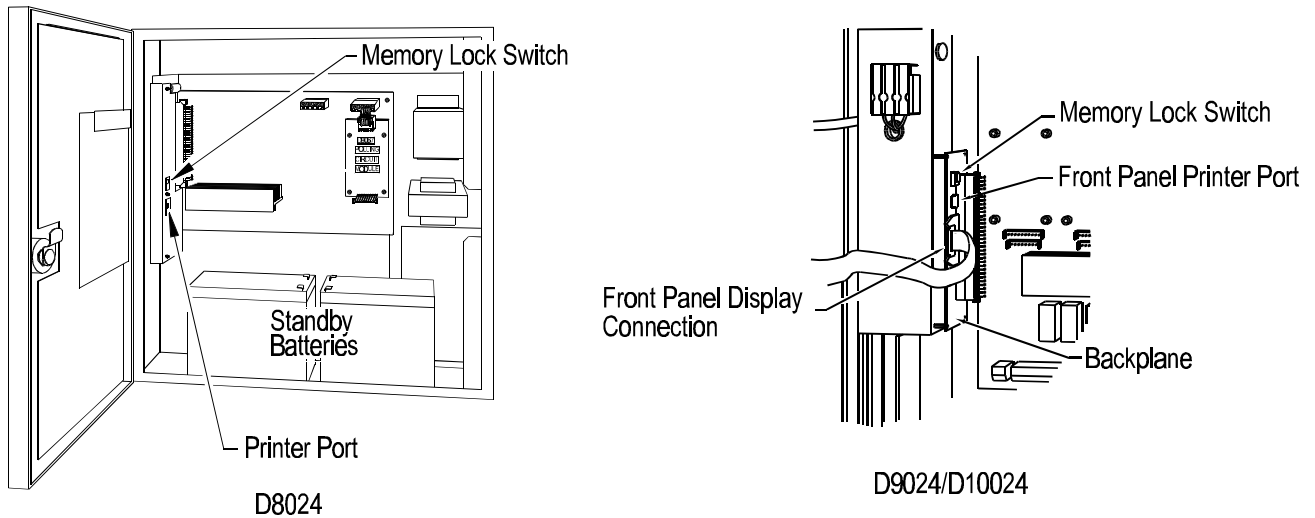

Figure 3: Memory Lock Switch Location
- To make any changes that affect the configuration of the system, such as adding sensors, the programmer must unlock the system memory using the Memory Lock switch (see Figure 3). Open the panel and move the memory lock switch to the lower position.
The display shows the first of the three Commission Menus. Press **YES** twice to page to Commission Menu Three. Press 2 to enter Setup options. The display prompts: “Memory is locked!” Unlock the memory using the Memory Lock Switch (see Figure 3). If no input is entered for over a minute while the memory is unlocked, the panel buzzer will sound and the alphanumeric display will read: “Panel left in commission mode.” Press the “>” key to silence the buzzer. Press 2 to enter the first Setup function.
The display prompts “Memory Lock Check [Yes] OK?” Press **YES** to confirm. In normal operation, the panel buzzer will sound if the memory is left unlocked. This may be inconvenient during some programming operations. Changing the Memory Lock Check to [No] allows the operator to exit the system configuration and resume normal operation with the memory unlocked without the buzzer sounding. See Figure 3 for the location of the memory lock switch on the D8024, D9024 and D10024. Press **YES** to confirm and move to the final Setup option.
If the memory is locked, the display prompts, “Memory is locked!” Unlock the memory using the Memory Lock Switch (see Figure 3).